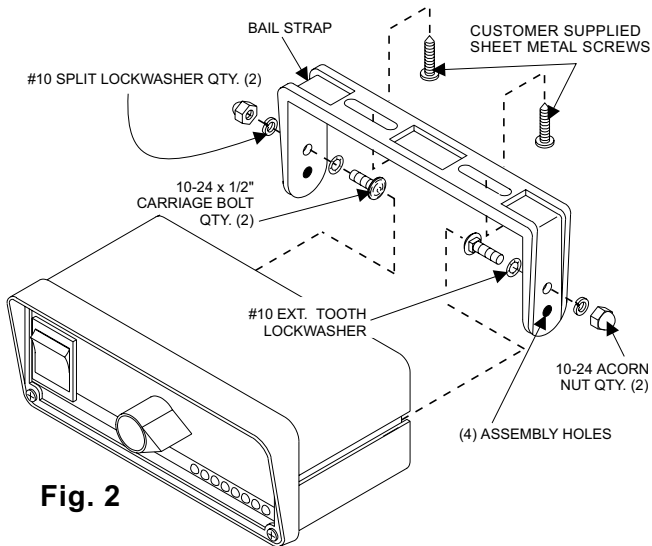

Fig. 2
NOTE: There are two sets of holes on either side of the Bail Strap that can be used when installing the TACTRL1, to position the control head at two different heights (Fig. 2).
4. With the bail strap in place, insert the carriage bolt along with the external tooth lockwasher (supplied) into the assembly hole from the inner side of the Bail Strap as shown in figure 2.